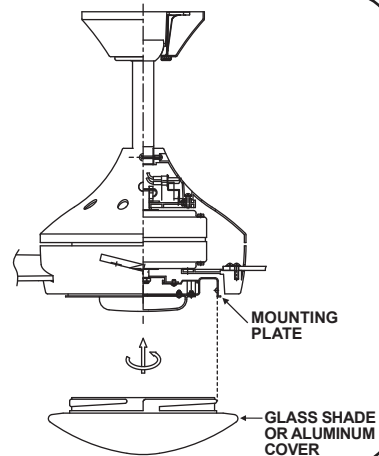

Fig 20
Step 1. Raise glass shade up against bottom of fan housing and secure it to the fan by turning the glass shade clockwise until snug. **DO NOT OVERTIGHTEN.** (Fig. 20)
NOTE: The aluminum cover included with your fan is an option to replace the glass for the light in the event that you prefer not to use the light feature of your fan. The metal light cover is not necessary for the light operation; it can be saved for later use if desired. (Fig. 20)